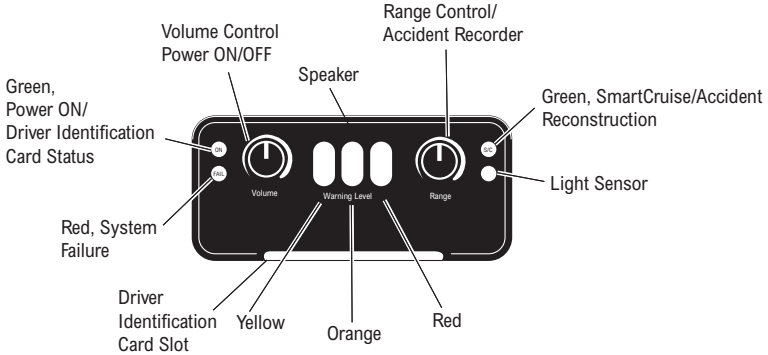

Figure 5
Green, Power-On/ Driver's Identification Card Status*	Illuminates after power is applied to the system and the power-on self test (described on page 16) is complete. The green "ON" light may blink continuously if the Driver's Identification Card is not installed, (the Driver ID Card is an optional feature) and card alarm might be enabled*. (See Figure 5)
Volume Control* and Power On/Off	When pushed in until a distinctive click is heard and/ or felt, this turns the power on or off* if enabled. Adjusts the volume of the Driver Display Unit speaker if enabled. Activates "Failure Display Mode" when the knob is pressed in and held for eight (8) seconds and then released. (See Figure 5)
Speaker	Located under the top cover of the Driver Display Unit. Sounds audible tones to alert the driver of a possible hazard. May be set to limit the volume to a minimum level*. (See Figure 5)
<p>Range Control* and Accident Recorder*</p>	<p>When rotated from minimum to maximum*, and not in Bendix™ SmartCruise® system*, this control knob provides range adjustment of the first alert (2 to 3 seconds) and the second alert (1.75 to 2 seconds). Function may be configured to prevent range adjustment control* (See Figure 5). When the SmartCruise system is selected, rotation of the knob, from maximum to minimum, will change the following interval from 2.25 to 3.25 seconds. Accident reconstruction is initiated by pushing and holding this knob for five (5) seconds, thereby freezing the most recent event data in half of the allocated memory. (See “In Case of an Accident” page 26). (See Figure 5)</p>
<p>Red, System Failure</p>	<p>Illuminates when a problem has been detected in the forward looking radar system. A pattern of flashes blink out the faults that are stored in memory when activated by holding in the volume control knob for five seconds (See “Diagnostic Features”, page 27). (See Figure 5)</p>
<p>Green, Bendix™ SmartCruise®*/ Accident Reconstruction*</p>	<p>Comes on when the SmartCruise system is enabled and vehicle cruise control has been engaged. If Accident Reconstruction* has been initiated to store information, it will flash eight (8) times. After system power-up and power-on LED test is completed and if Accident Reconstruction information was previously stored, the display will flash eight (8) times. (See Figure 5)</p>
<p>Light Sensor</p>	<p>Photo sensor senses ambient lighting and adjusts intensity of the indicator lights accordingly, e.g., increases the brightness of the indicator lights during daytime hours and decreases the brightness of indicator lights at night. (See Figure 5)</p>